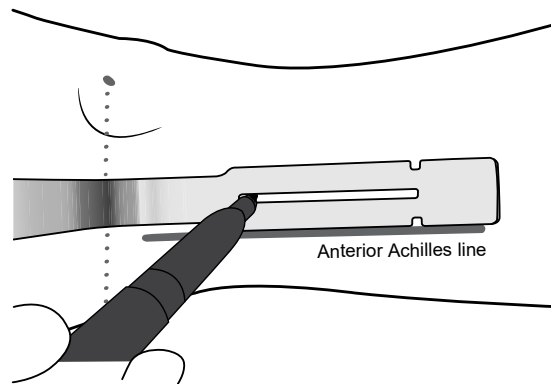

Figure 9. Marking the location of the tibial nerve
7. With a sterile marker placed in the groove in the pocket dissector handle, draw a line the length of the groove (Figure 9).